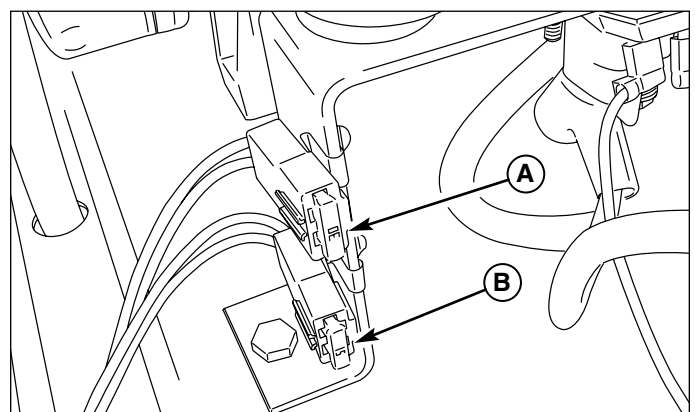

Figure 25. Fuse Designations and Ratings
3. Remove and check the suspected fuse (or fuses). If blown, replace with a fuse with a rating equal to the ratings indicated in Figure 25.